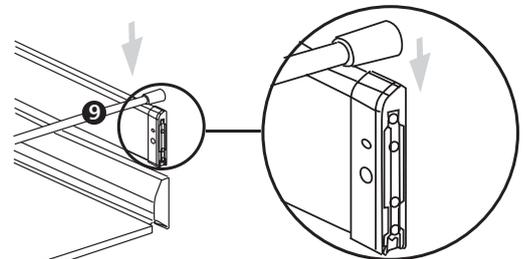

Figure 3.
7. Identify Front Rail 9 which has spring loaded ends. Secure Front Rail to front of drawer side extensions by pushing downwards as shown in fig3.